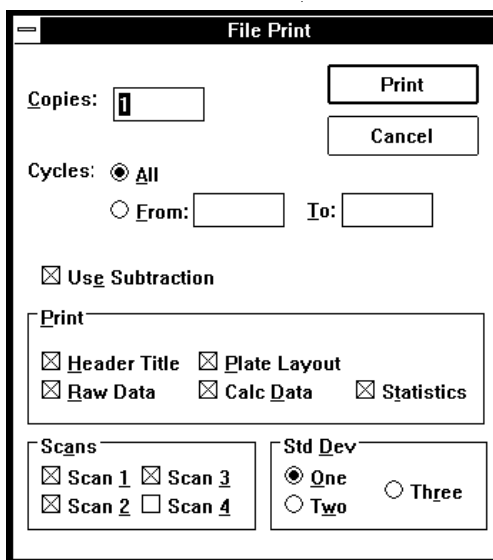

Figure 3-18 File Print Dialog Box
1. Select **Print** from the File menu (Alt, F, P). The File Print dialog box appears (Figure 3-18).